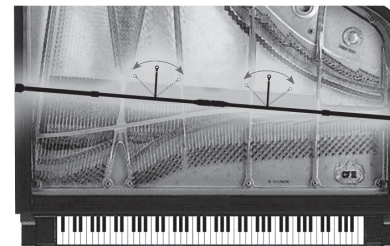

Figure 11. Adjustable flex arms for the Microphones
9. With the PianoMic™ in place, you can move the flex arms attached to the microphone heads several inches to the left or to the right to achieve your desired placement (*See Figure 11*).